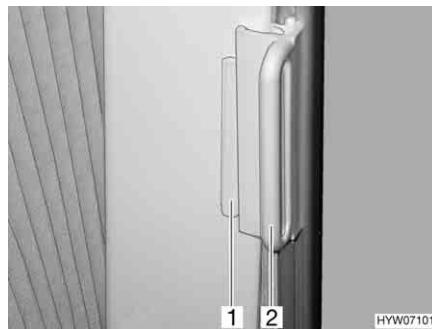

Fig. 87 Roman shade, driver's cabin window
- Grasp the handle (Fig. 87,2) of the Roman shades and draw carefully until the magnetic catch keeps the Roman shades closed.
- Push the handle (Fig. 87,2) onto the cap (Fig. 87,1). The Roman shade is secured.